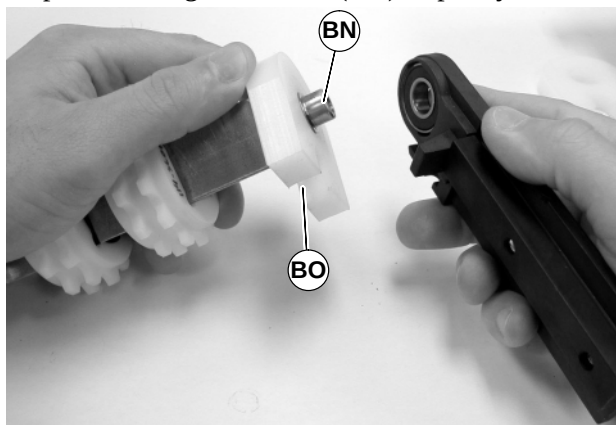

Figure 54
3. Install idler guard (BO of Figure 54) on the end of pulley (BN). With bearing installed in head plate, press bearing on to shaft (BN) of pulley.